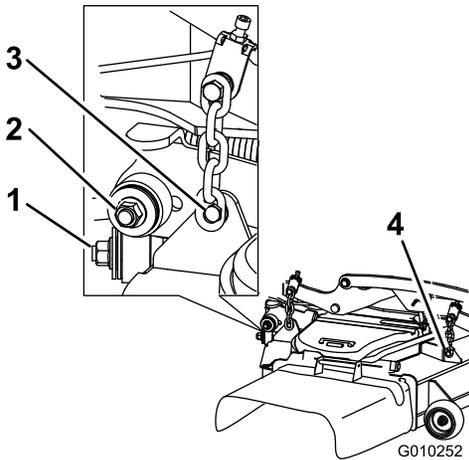

**Figure 112**
5. Lift up the floor pan and insert a ratchet into the square hole in the deck idler (Figure 112).
6. Rotate the deck idler clockwise and remove the mower belt (Figure 112).